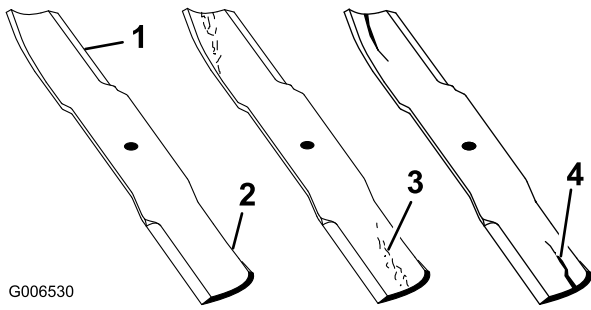

Figure 48
1. Inspect the cutting edges (Figure 48). If the edges are not sharp or have nicks, remove and sharpen the blades; refer to Sharpening the Blades.
2. Inspect the blades, especially the curved area (Figure 48). If you notice any damage, wear, or a slot forming in this area (item 3 in Figure 48), immediately install a new blade.